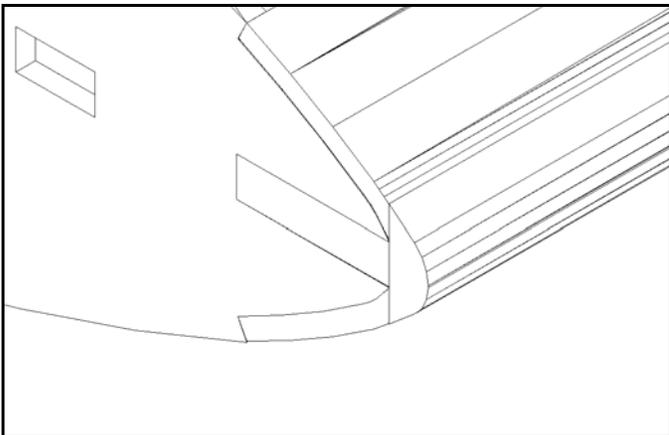

Figure 14
15. Cut excess leading and trailing edges and spar material flush with end ribs. Carve and sand leading edge to rounded shape. (Fig 14)